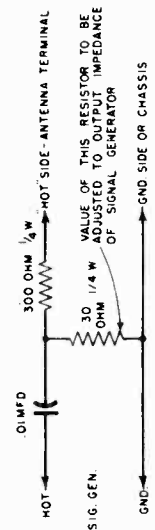

Fig. 3 FM Dummy Antenna
10. Remove short from #6 gang terminal and change signal generator input from gang to FM antenna jack on rear of radio chassis, applying signal through FM dummy antenna circuit shown in Fig. 3.
9. Remove short from #6 gang terminal and change signal generator input from gang to FM antenna jack on rear of radio chassis, applying signal through FM dummy antenna circuit shown in Fig. 3.